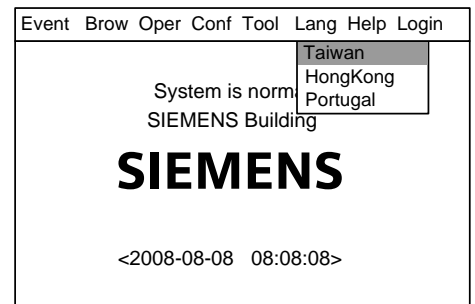

Fig.32-2
2. Press “→” to select “Lang” submenu (Fig. 32-2). Select a language you need and press “OK”.